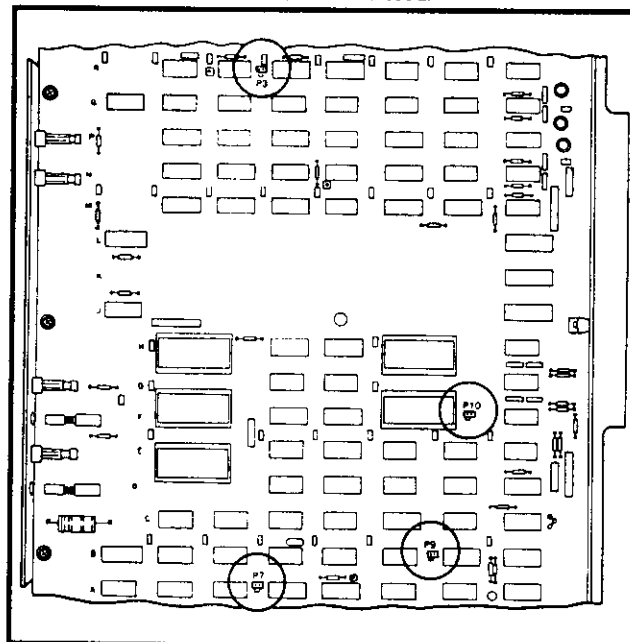

FIGURE 19—DPEU PCB CONNECTION PLUGS
05.73 The FPEU/DPEU card requires plug verification prior to installation. Proper plug locations are depicted in Figures 19 and 20.